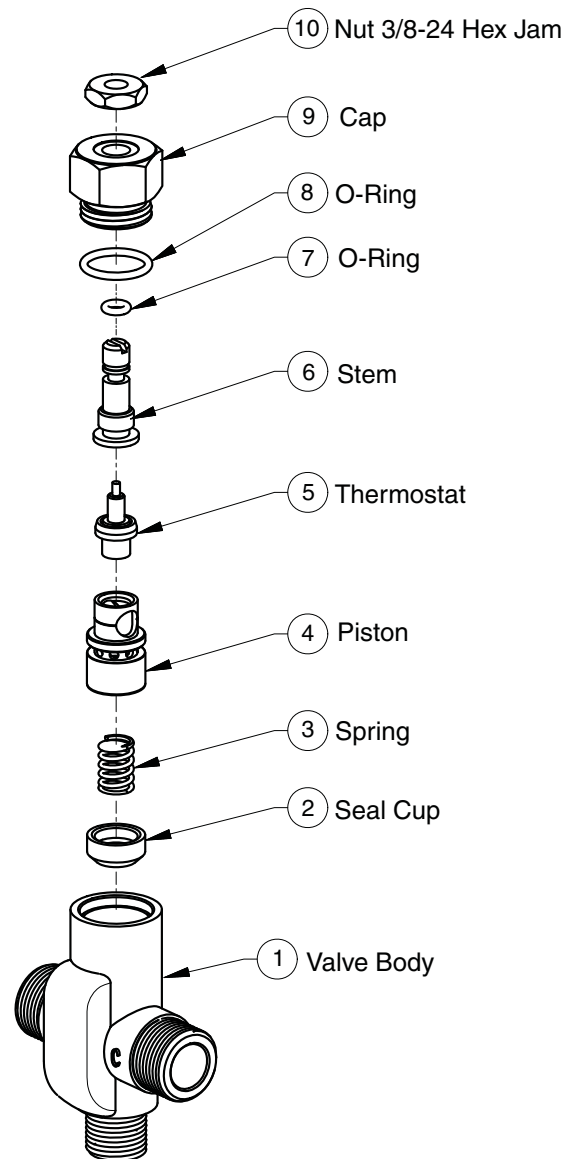

Figure 11
1. Remove the valve's cap and thermostat (see Figure 11 on Page 27).